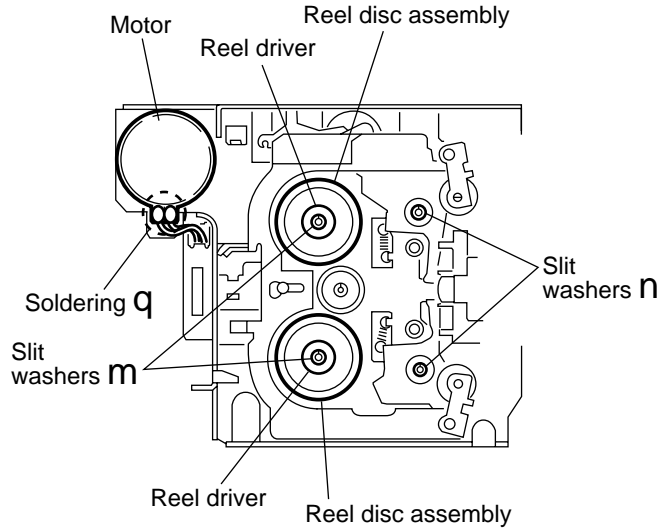

Fig.8
**■Removing the reel disc assembly (twin set) (See Fig.8 to 10)**
**■Removing the flywheel assembly (F) and (R) (See Fig.8 and 11)**
3. Pull out the flywheel assembly (F) and (R) from underside of the mechanism assembly.
**■Removing the motor (See Fig.8 and 11)**